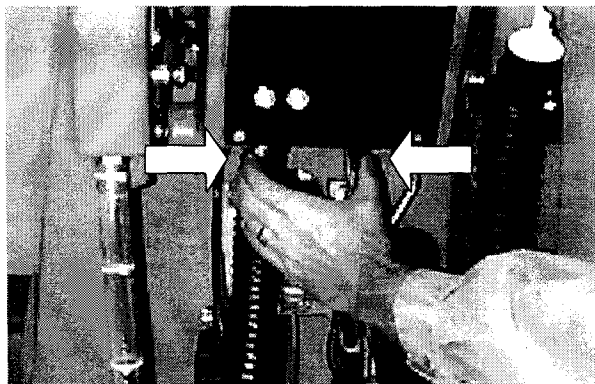

FIG. 11
1. Adjust control grips to a comfortable operating height. Squeeze the two levers together, located under console, and lift or lower console to desired height (three settings) (Figure 11).